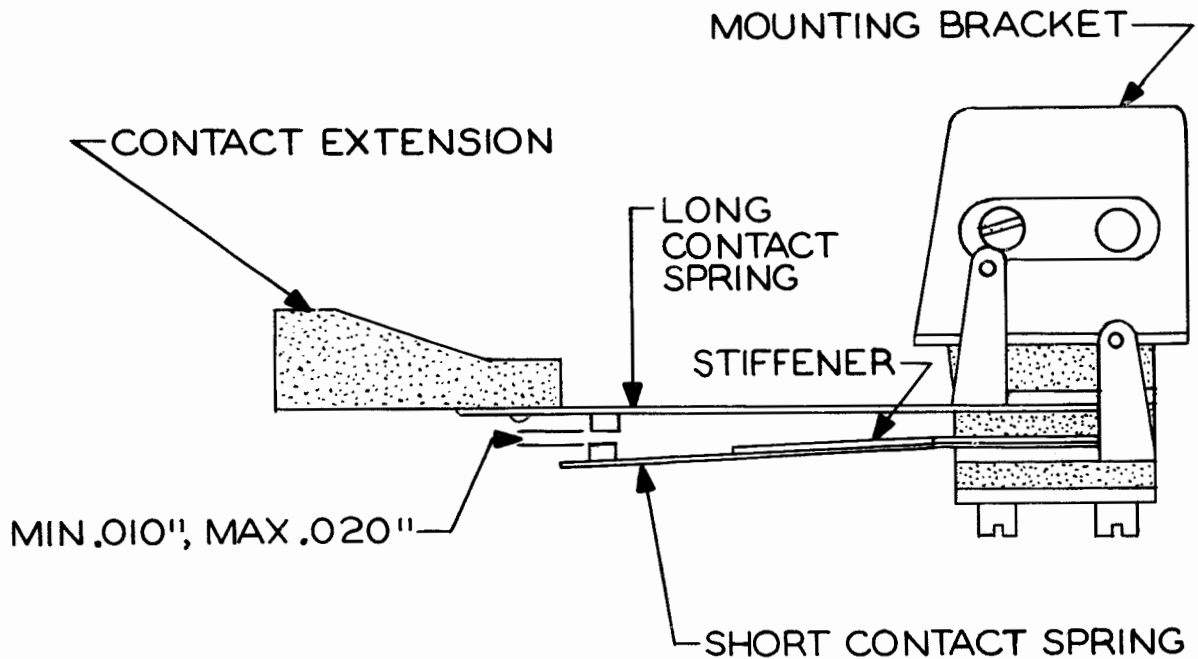

Figure 18
- (a) The short contact spring and stiffener should be aligned approximately parallel to the mounting bracket. (See Figure 18.)
- (b) The short contact spring should bear against its stiffener with not more than 1 ounce pressure. (See Figure 18.)
- (c) There should be minimum 0.010 inch, maximum 0.020 inch clearance between the contacts. (See Figure 18.)
- (d) There should be not more than 0.050 inch clearance between the contact bakelite extension and the tail of the bell-hammer locking-pawl. (See Figure 18.)